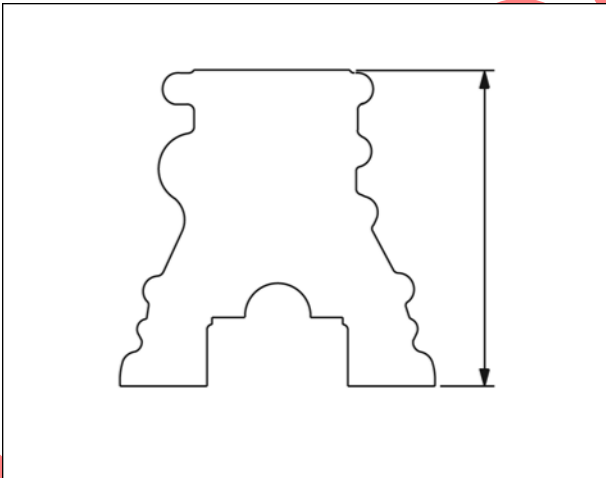

Figure 2
3. If cylinder block exceeds limits shown, it may be resurfaced (Figure 2).